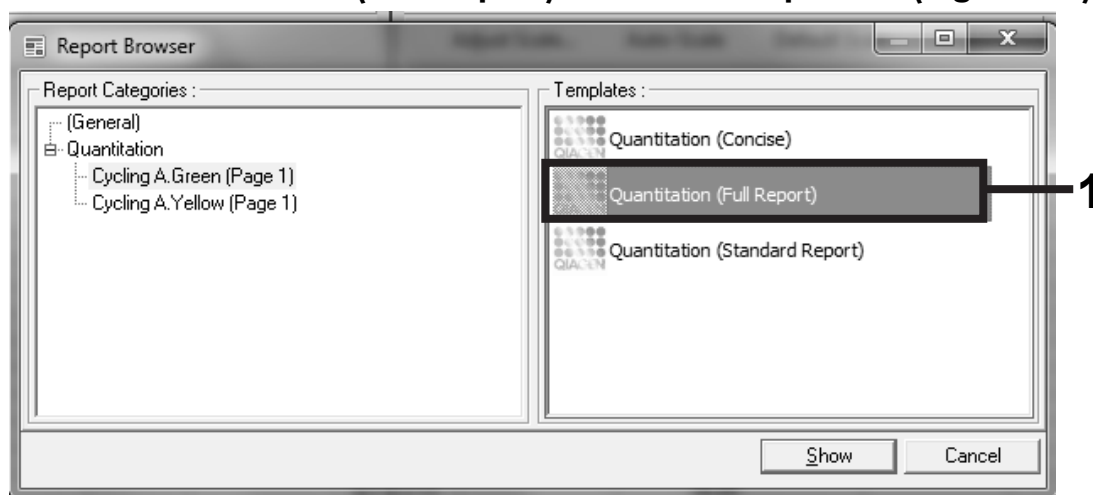

Figure 14. Quantitation report (full report).
18. Select “Quantitation (Full Report)” under “Templates” (Figure 14).